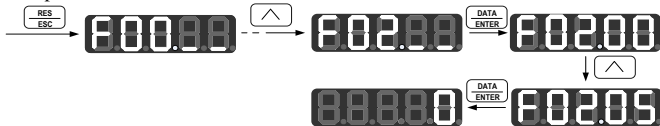

Figure 4-4 Procedures for Viewing Parameter
■ Select corresponding function code and view its parameter via selecting main menu and sub-menu. For instance: follow the operation procedures shown in Figure 4-4 to view parameter of F02.05.